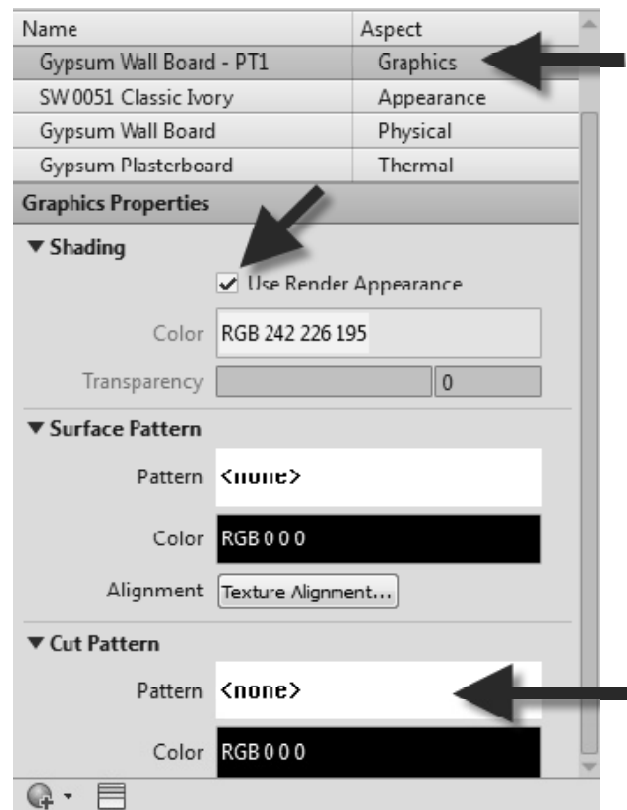

FIGURE 4-3.19 Material Editor; Graphics panel
57. Set the *Cut Pattern* to **None** (Figure 4-3.19).